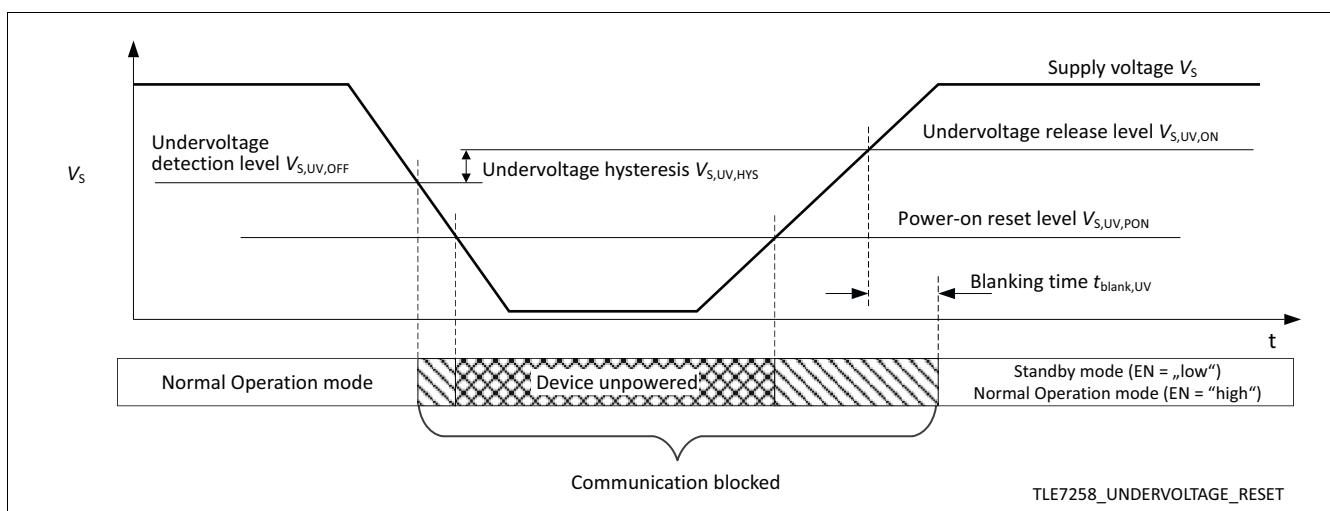

Figure 12 Undervoltage detection and power-on reset
- In case the power supply V_S drops down below the power-on reset level $V_{S,UV,PON}$ the TLE7258D not only blocks the communication between the LIN bus and the microcontroller, it also changes the operation mode to Standby mode after V_S supply recovery. In Standby mode the TLE7258D indicates a power-up event on the RxD output. The power-on reset level is active in all operation modes. See Figure 12.